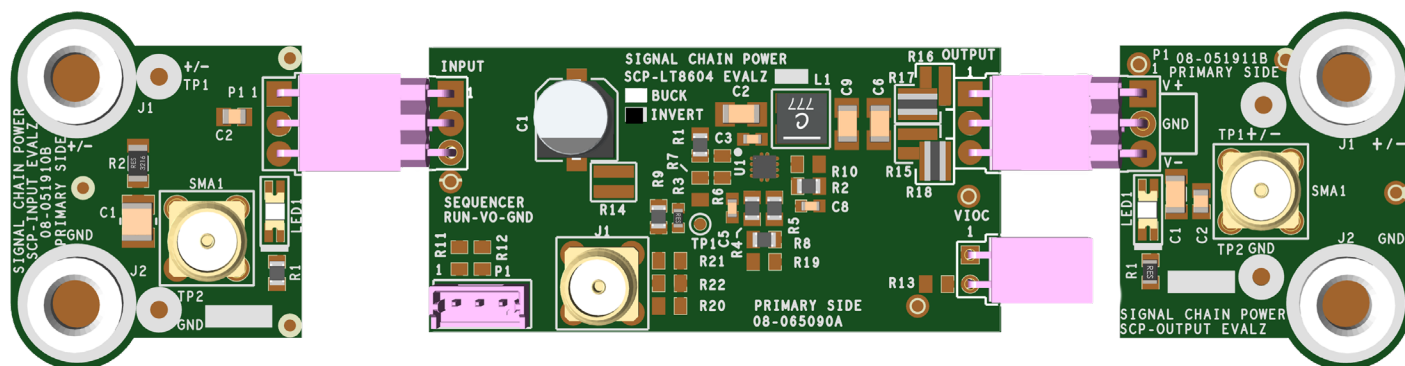

Figure 2. Proper Measurement Equipment Setup (Use SMA connectors for Measuring Input or Output Ripple)
2. Connect the SCP-INPUT-EVALZ and SCP-OUTPUT-EVALZ boards to the SCP-LT8604C-IEVALZ (refer to Figure 2) and connect the input board to a voltage source, V_{SOURCE} . Connect the output board to a voltmeter or dynamic load. Slowly raise the input voltage until the SCP-LT8604C-IEVALZ powers up into regulation and sweep V_{SOURCE} through the desired range of operation.